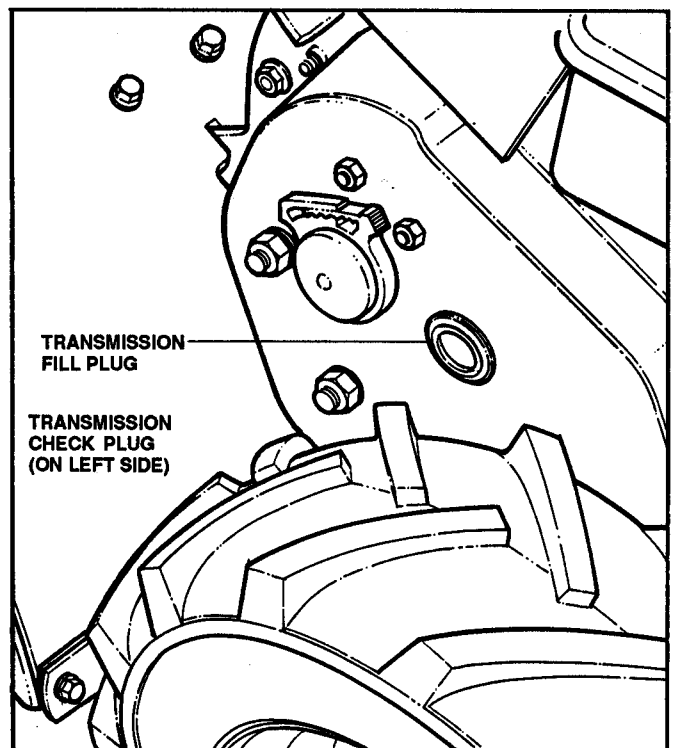

FIGURE 9
*TRANSMISSION FILL PLUG NOT SHOWN. REFER TO FIGURE 9.
CHAIN CASE: Check the level of the grease in the chain case at the beginning of each tilling season. Check by removing the plastic plug located beside the axle shaft on the lower left hand side. The level should be up to the edge of the opening. To add grease, remove the filler plug located just forward of the pulley shaft on the R.H. side. Add **SNAPPER** Transmission grease as needed to bring level up to bottom edge of the check plug opening. The total capacity of the case is about 1 U.S. Standard quart - do not exceed this amount. Reinstall plugs after checking. See Figure 9.